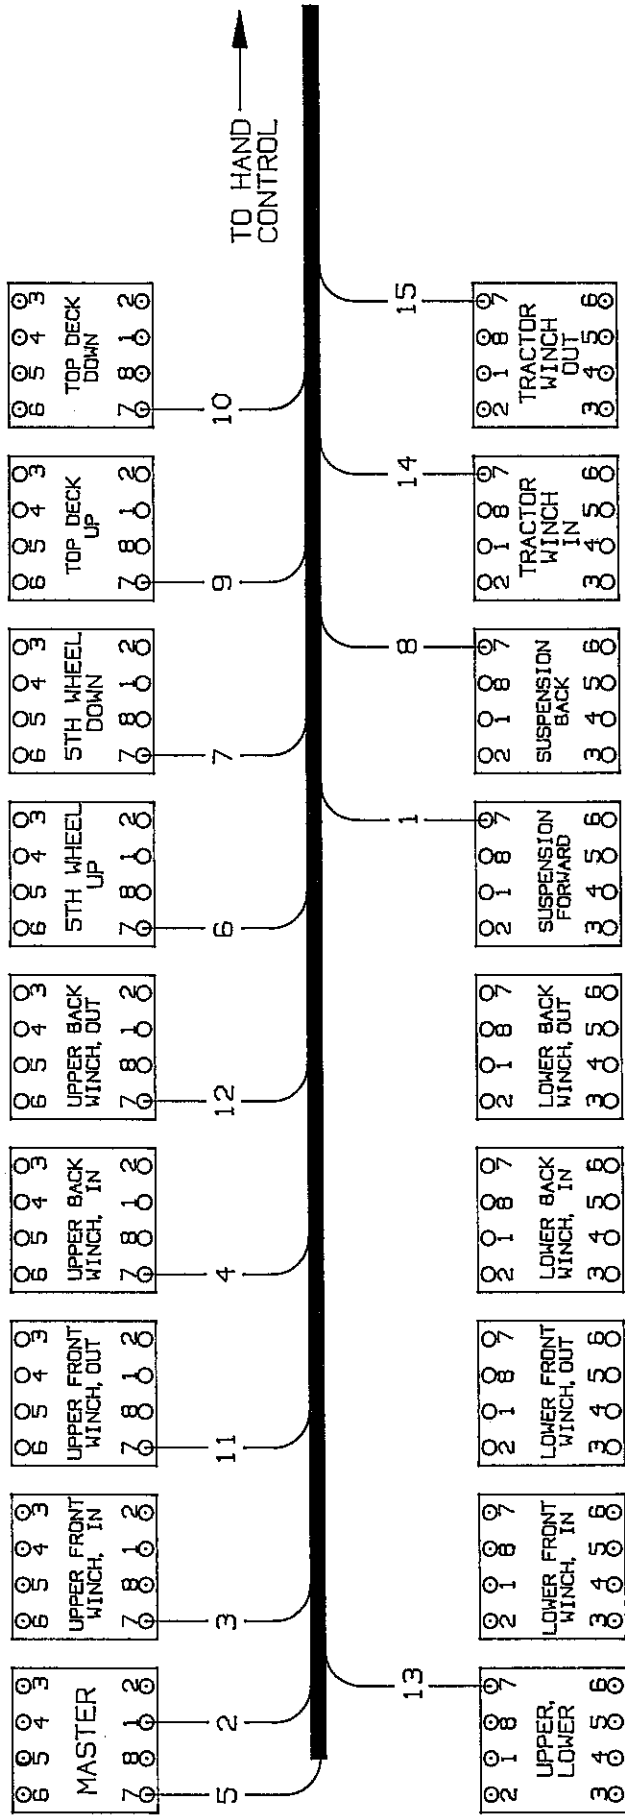

Figure 4
6. Install the stripped, bare wire end of the new cable through the valve compartment cable connector. Attach the cable wires to the proper relays, matching stamped wire numbers with those in Figure 4.